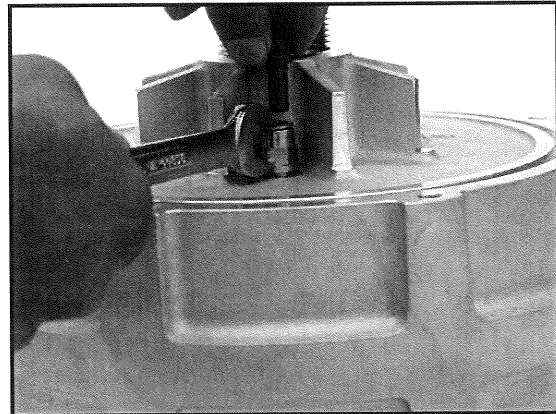

Figure 17 – Move Water-Cooling Plugs
5. Remove the water-cooling plugs from the blower head and rotate as necessary. (See Figure 17)(If Applicable)